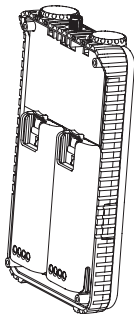

Figure 5. Li-Ion Batteries Installed in the Repeater Back Housing
6. Repeat same procedure with the second battery, making sure both batteries are tightly locked into the repeater back housing. Reconnect power harness. Refer to “Figure 5.Li-Ion Batteries Installed in the Repeater Back Housing” below.